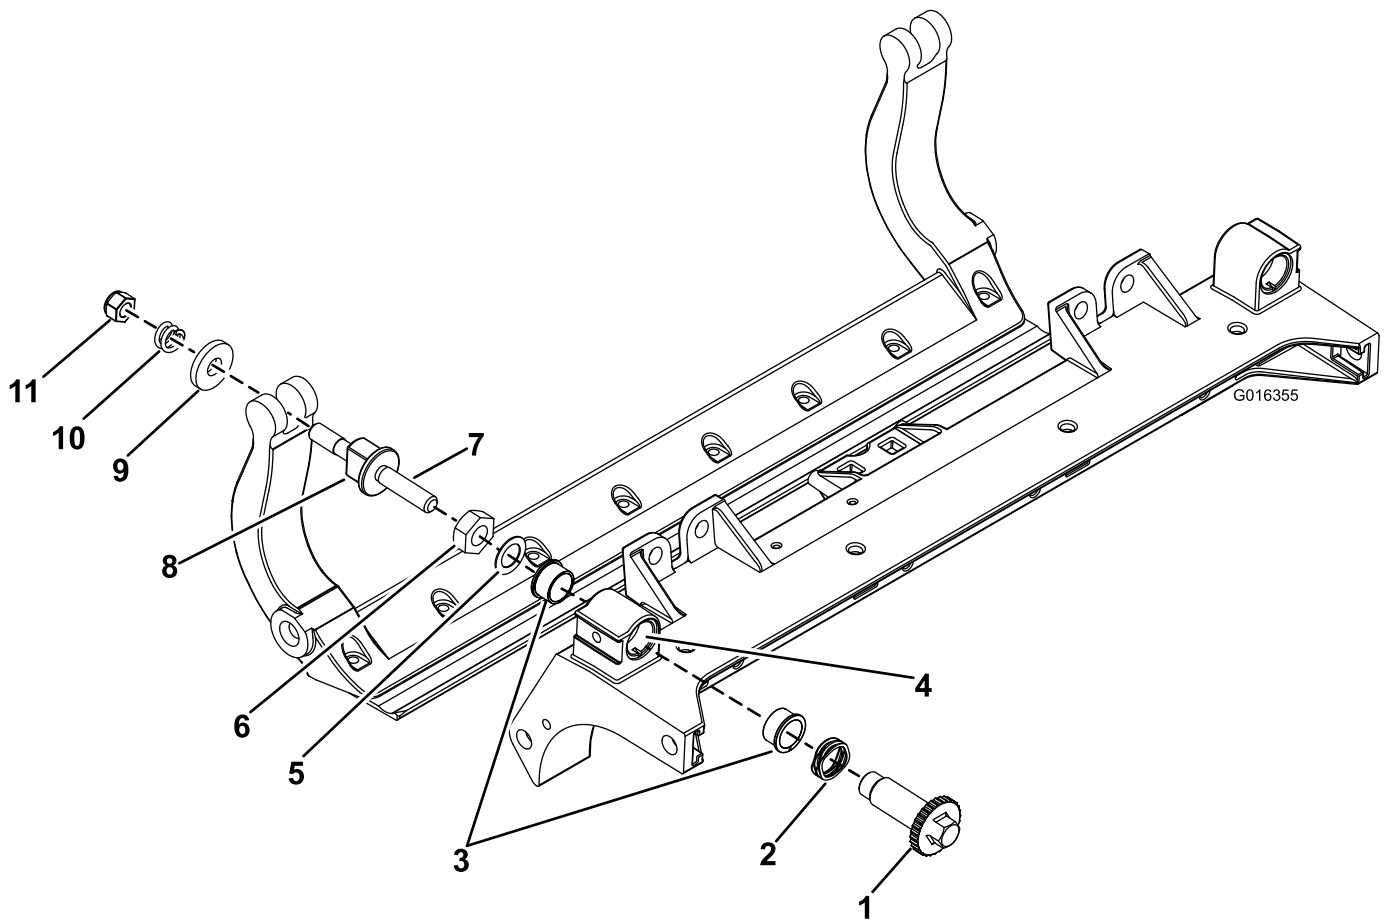

Figure 35
1. Remove all parts; refer to *Installation Instructions* for HD DPA Kit Model 120-7230 and to Figure 35.
2. Apply anti-seize compound to the inside of the bushing area on the center cutting unit frame (Figure 35).
3. Align the keys on the flange bushings to the slots in the frame and install the bushings (Figure 35).
4. Install a wave washer onto the adjuster shaft and slide the adjuster shaft into the flange bushings in the frame of the cutting unit (Figure 35).
5. Secure the adjuster shaft with a flat washer and a locknut (Figure 35). Torque the locknut to 20 to 27 N·m (15 to 20 ft-lb).
- B. Place a steel washer outside each of the nylon washers (Figure 35).